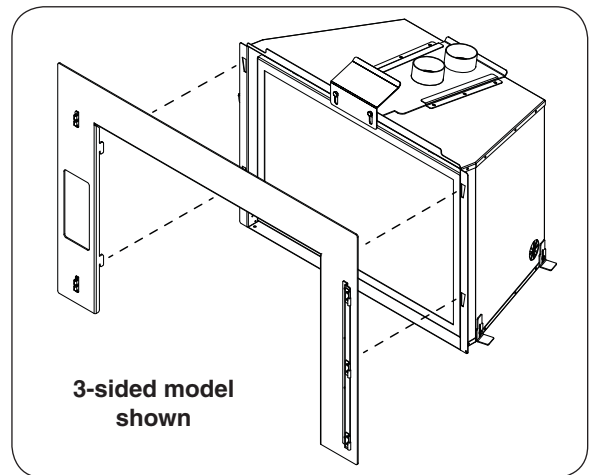

Fig. 34-1 Install surround fascia
2. The rear of the fascia has 4 hooks. Insert the hooks into the four slots found on the front of the unit. Ensure the fascia firmly rests down in place. Wear gloves. See Fig. 34-1.